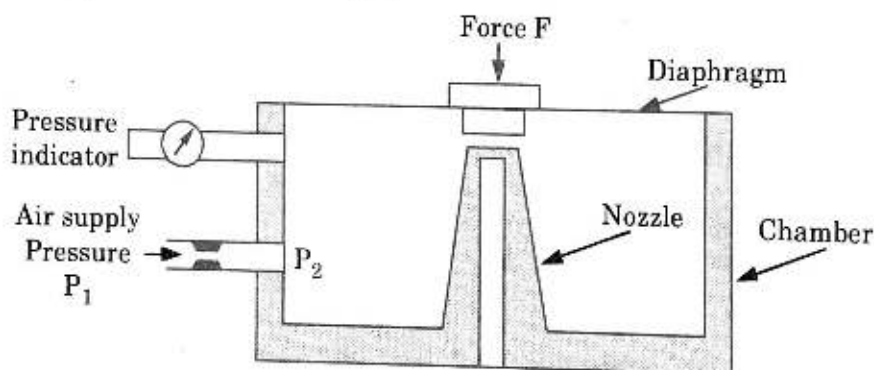

Fig. 5.18.2. Pneumatic load cell.
- i. In this type of load cell as shown in Fig. 5.18.2, air is supplied under pressure to a chamber having a diaphragm at one end and a nozzle at the other.